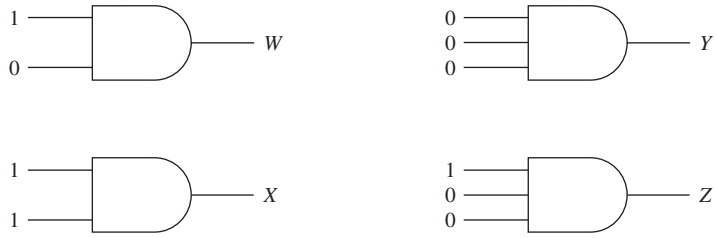

Figure P4
4. Determine the logic level at *W*, *X*, *Y* and *Z* in Figure P4.